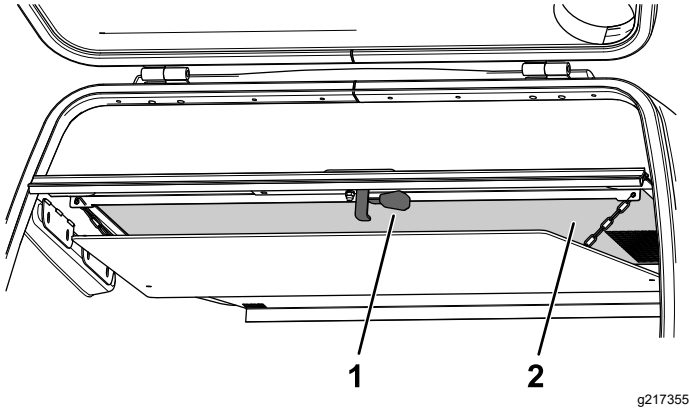

Figure 138
2. Pull the release lever on the bottom of the hopper screen downward (Figure 138).